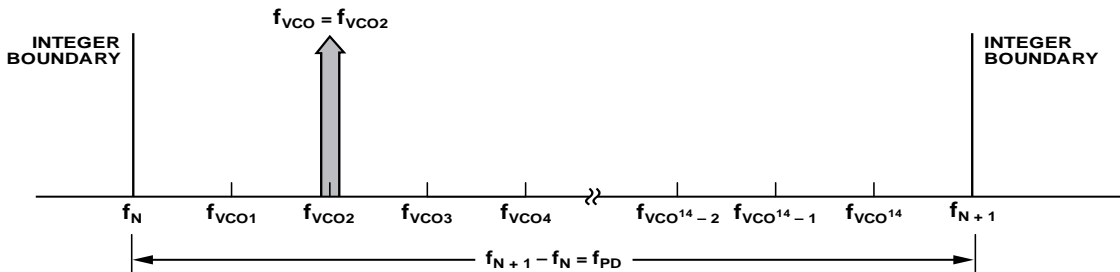

Figure 46. Exact Frequency Tuning
$f_{VCOk}$  is the channel step frequency where  $0 < k < 2^{24}-1$ , as shown in Figure 46.
(the denominator or the modulus of the  $\Delta$ - $\Sigma$  modulator) so that the  $\Delta$ - $\Sigma$  modulator phase accumulator repeats at an exact period related to the interval frequency ( $f_{VCOk} - f_{VCO(k-1)}$ ) in Figure 46. Consequently, the shortened accumulator results in more frequent repeating patterns and as a result often leads to spurious emissions at multiples of the repeating pattern period, or at harmonic frequencies of  $f_{VCOk} - f_{VCO(k-1)}$ . For example, in some applications, these intervals might represent the spacing between radio channels, with the spurious occurring at multiples of the channel spacing.
When multiple, equally spaced, exact frequency channels are needed that fall within the same interval (that is,  $f_N \leq f_{VCOk} < f_{N+1}$ ) where  $f_{VCOk}$  is shown in Figure 46 and  $1 \leq k \leq 2^{14}$ , it is possible to maintain the same integer-N (Register 0x03) and exact frequency register (Register 0x0C) settings and only update the fractional register (Register 0x04) setting. The exact frequency channel mode is possible when Equation 16 is satisfied for at least two equally spaced adjacent frequency channels, that is, the channel step size.
To configure the HMC832 for exact frequency channel mode, initially and only at the beginning, the integer (Register 0x03) and exact frequency (Register 0x0C) registers need to be programmed for the smallest  $f_{VCO}$  frequency ( $f_{VCO1}$  in Figure 46), as follows:
1. Calculate and program the integer register setting Register 0x03 =  $N_{INT} = \text{floor}(f_{VCO1}/f_{PD})$ , where  $f_{VCO1}$  is shown in Figure 46 and corresponds to the minimum channel VCO frequency. Then, the lower integer boundary frequency is given by  $f_N = N_{INT} \times f_{PD}$ .
where  $f_N = \text{floor}(f_{VCO1}/f_{PD})$ , and  $f_{VCO1}$ , as shown in Figure 46, represents the smallest channel VCO frequency that is greater than  $f_N$ .
4. To change from Channel 1 ( $f_{VCO1} = 2800.2$  MHz) to Channel 2 ( $f_{VCO2} = 2800.3$  MHz), only Register 0x04 needs to be programmed, as long as all of the desired exact frequencies,  $f_{VCOk}$  (Figure 46), fall between the same integer-N boundaries ( $f_N < f_{VCOk} < f_{N+1}$ ). In that case,